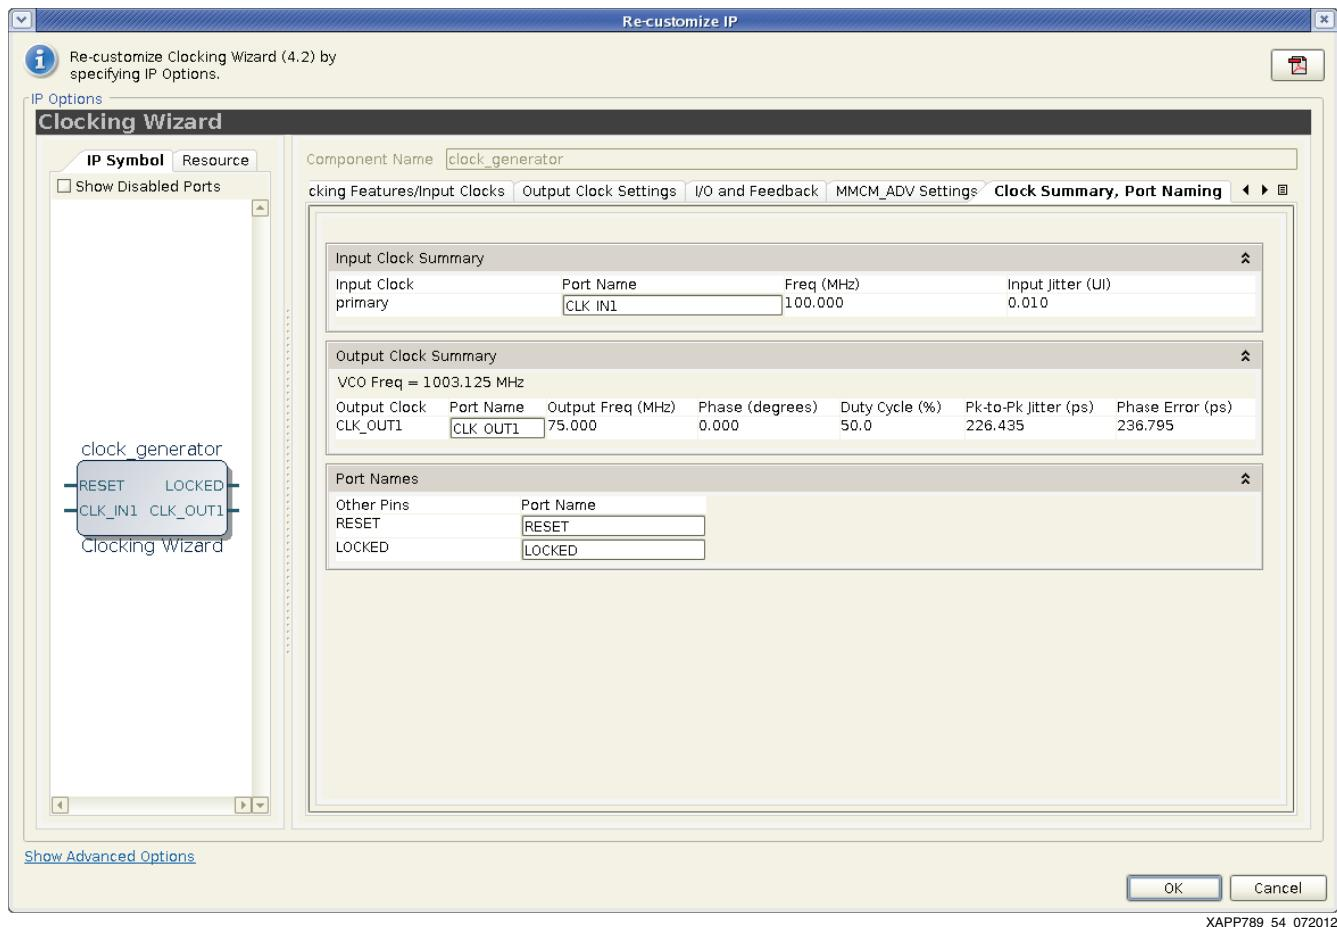

Figure 54: **Clocking Wizard Clock Summary and Port Naming Settings**
45. Click the **Clock Summary, Port Naming** tab and verify that the primary input clock port name is **CLK_IN1** (Figure 54).